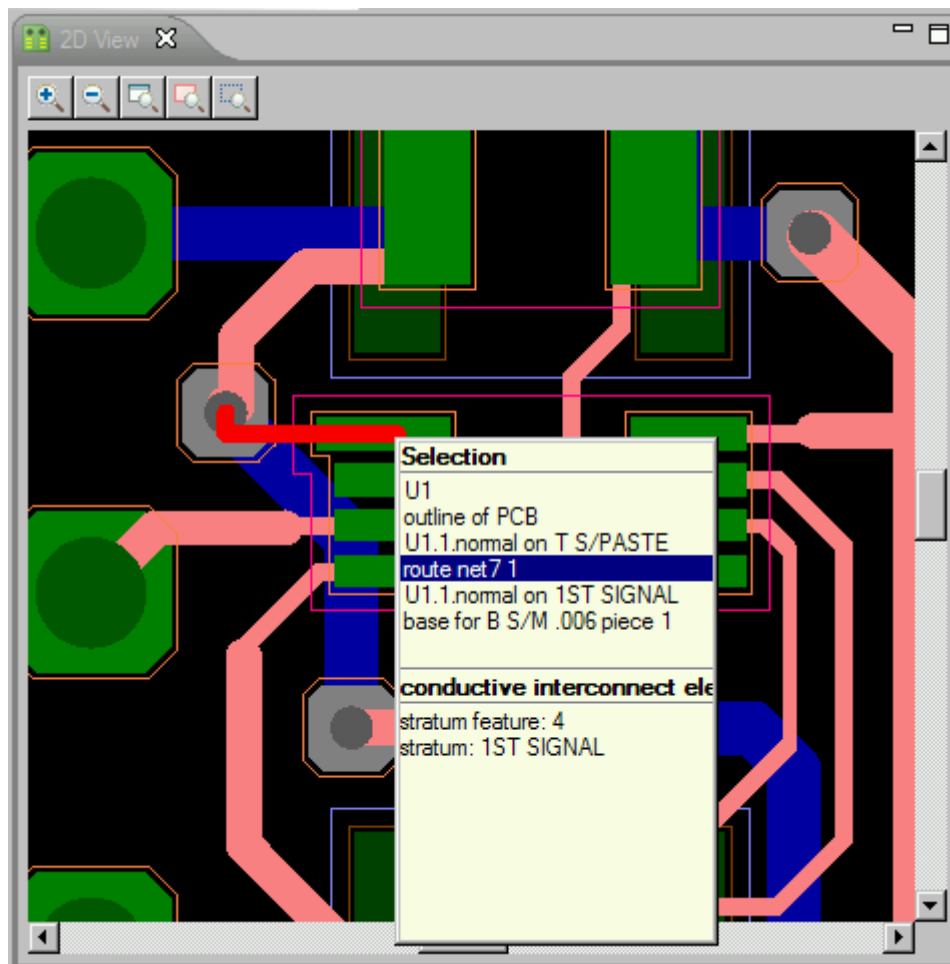

Figure 1. The selected object is highlighted in 2D View directly
- Select an object from the context sensitive menu. The selected object is highlighted (by default, red colour) (see Figure 1). You can change highlighting colour in the  **Display settings** view.